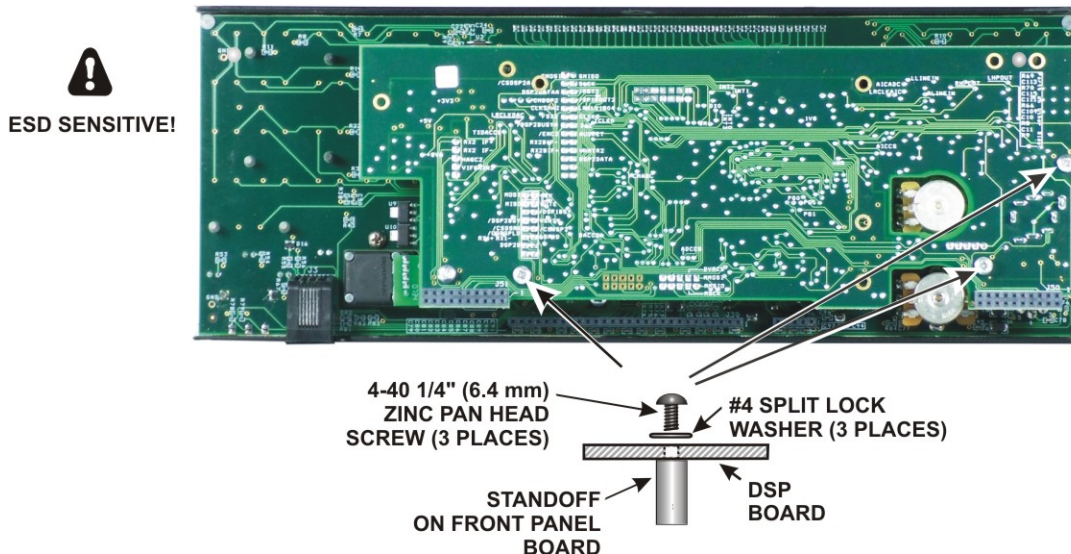

Figure 58. Mounting the DSP Board.
□ Secure the DSP board to the front panel board with three 4-40 1/4" (6.2 mm) zinc pan head screws and split lock washers as shown in Figure 58.